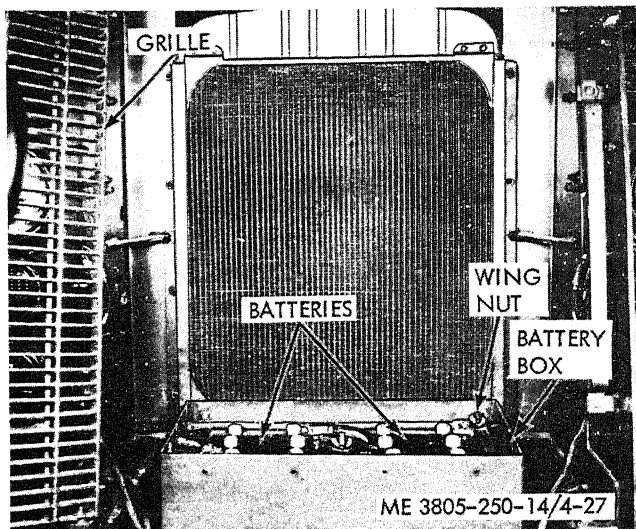

Figure 4-27. Batteries.
d. Replacement. Refer to figure 4-27.
(1) Open the rear grille to attain access to the batteries. Remove the cover from the battery box.
(2) With the master switch off, disconnect the battery cables. Always disconnect the ground cable first.